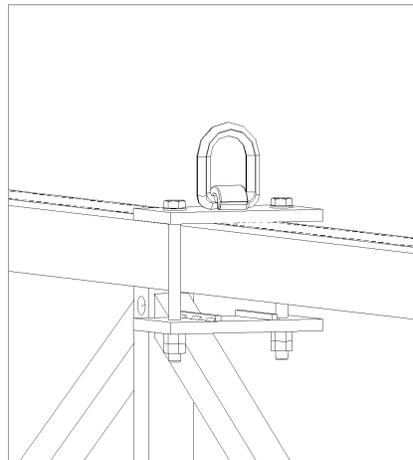

Fig. A1.03
3. Re-insert bolt, washers & nuts that were removed. (Fig. A1.03)